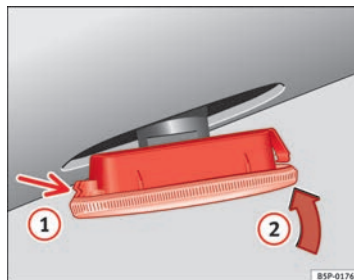

Fig. 165 Side turn signals
- First fit the turn signal in the opening in the chassis, fastening the tabs ① ⇒ fig. 165, and then fit in the bulb as shown by the arrow ② ⇒ fig. 165. ■